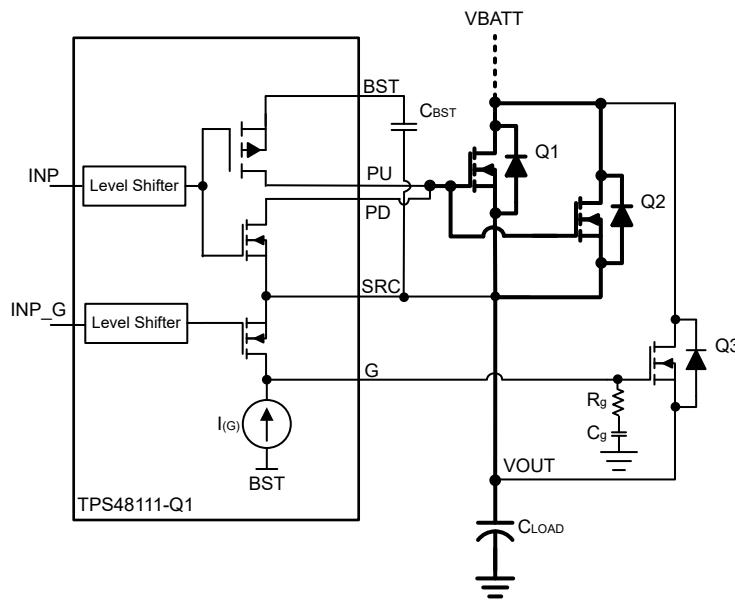

Figure 8-7. Capacitor Charging Using Gate Slew Rate Control of Precharge FET
The TPS48111-Q1 integrates precharge gate driver (G) with a dedicated control input (INP_G). This feature can be used to drive a separate FET that can be used to precharge the capacitive load. Figure 8-7 shows the precharge FET implementation for capacitive load charging using TPS48111-Q1. An external capacitor C_g reduces the gate turn-ON slew rate and controls the inrush current.